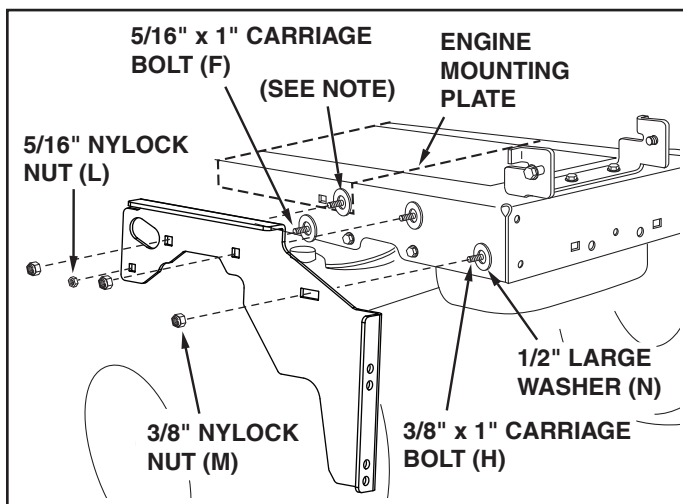

FIGURE 3
STEP 2: (SEE FIGURE 3)
- Fasten the R.H. Side Plate (bend facing out) to the front three holes in the tractor frame using three 3/8" x 1" carriage bolts (H), three large 1/2" washers (N) (see note) and three 3/8" nylock nuts (M). For the rear hole, use a 5/16" x 1" carriage bolt (F), a large 1/2" washer (N) and a 5/16" nylock nut (L). Place the washers between the tractor frame and the side plate. Tighten all bolts. Repeat for L.H. side plate.